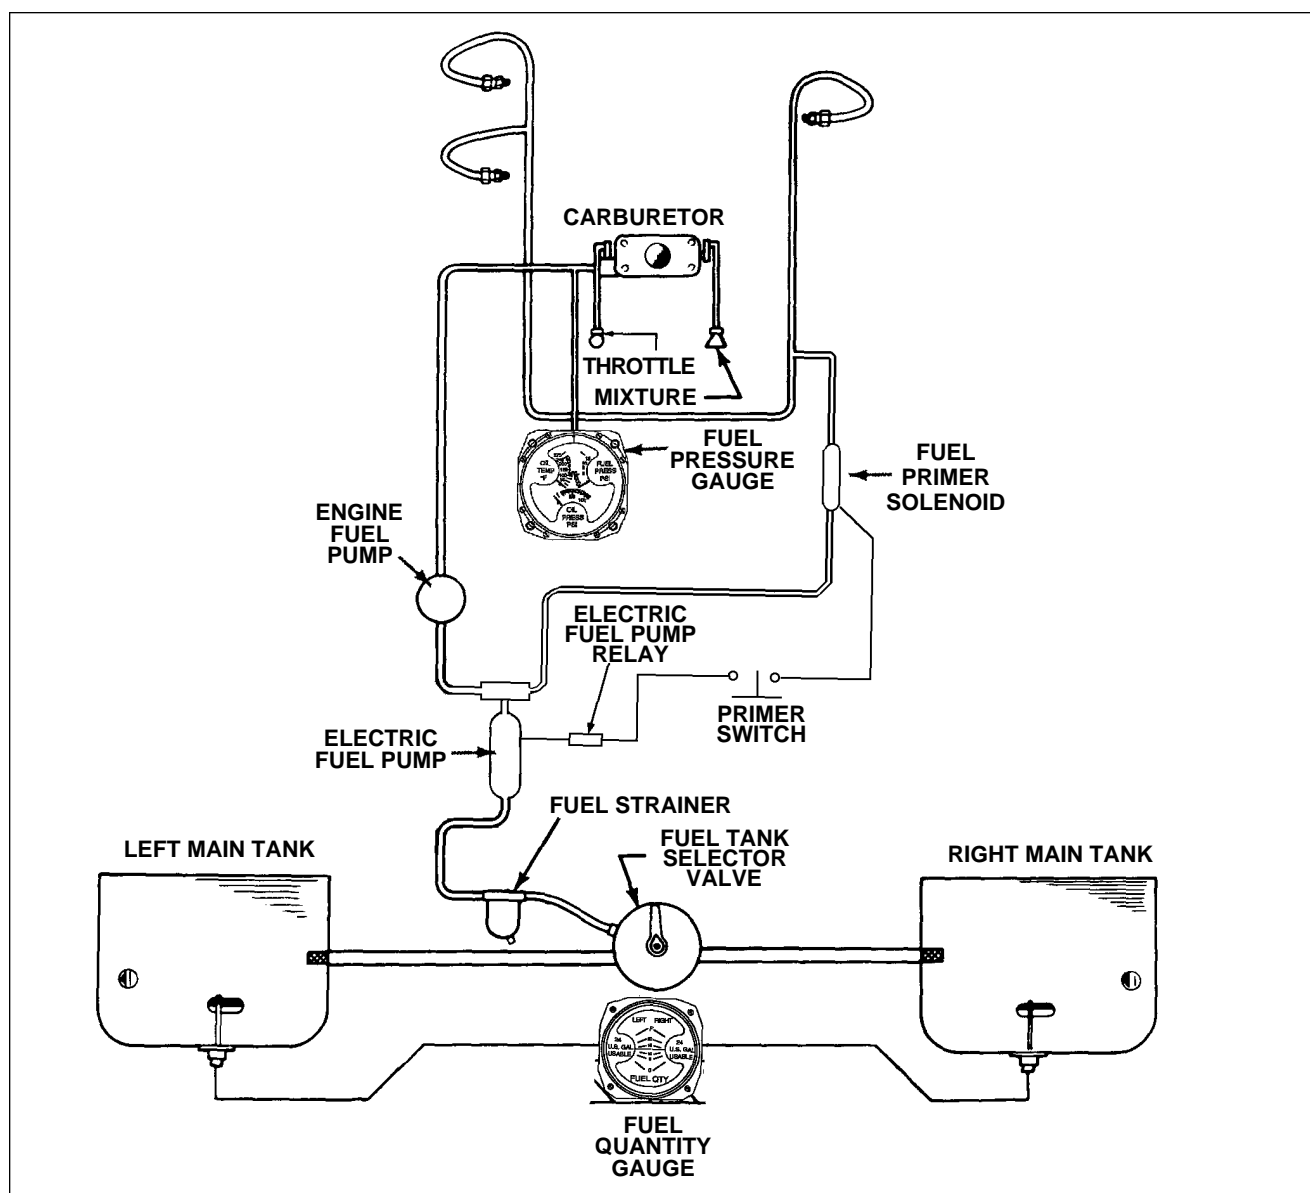

Figure 9-2. PA-28-161, Warrior III Fuel Systems Diagram
b. PA-28-161, Warrior III. (Refer to Figure 9-2.)
PA-28-161, Warrior III airplanes are equipped with aluminum fuel tanks consisting of one in the inboard leading edge section of each wing. Each tank has a capacity of 25 gallons, of which 24 gallons are usable. A strainer is installed in the fuel outlet of each tank. A fuel line is routed from the tank outlet through the wings to the fuel selector valve located on the left side of the cabin in front of the pilot's seat. (Refer to Figure 9-2.) A line from the fuel selector valve leads to the fuel strainer bowl mounted on the left forward face of the firewall. From the strainer bowl a fuel line is routed to the electric fuel pump, the engine driven fuel pump, and then to the carburetor and fuel inlet port.